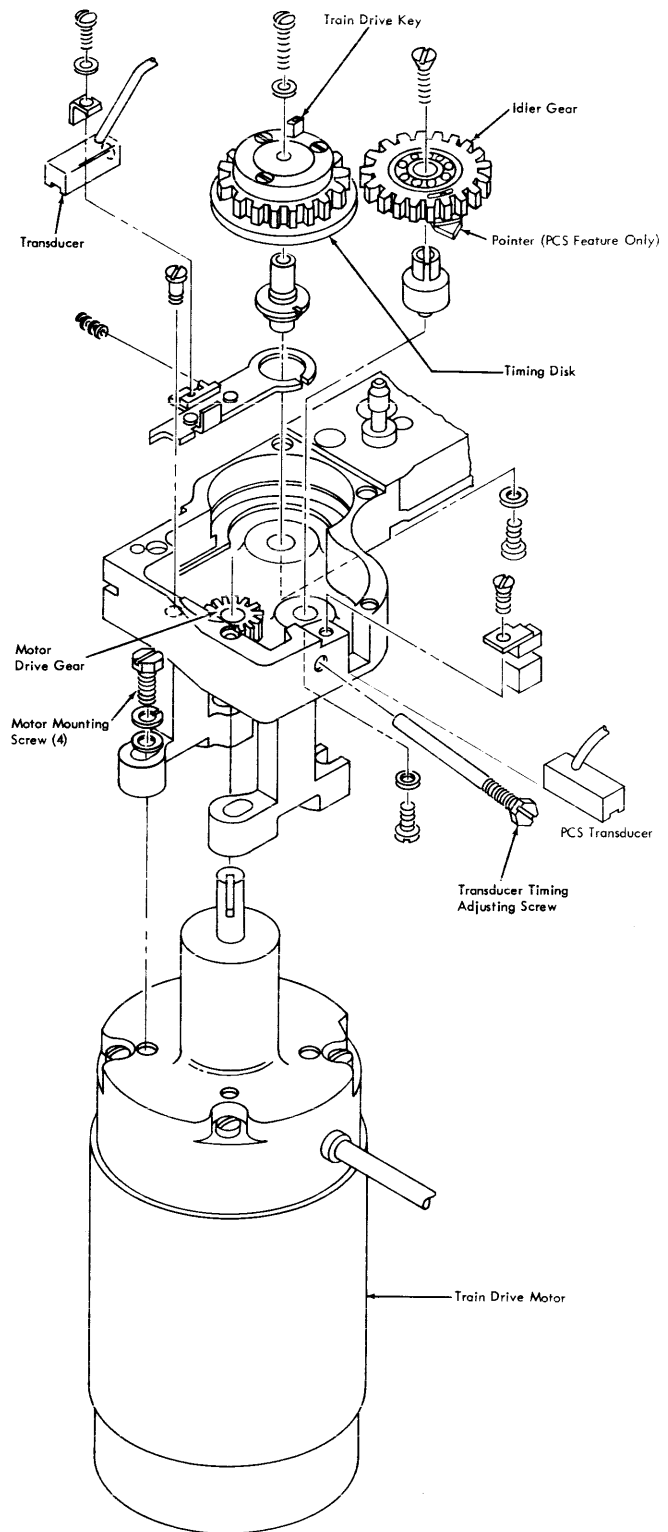

Figure 70. Train Drive and Timing Disk
4. Turn the idler gear to obtain the tightest mesh with the motor-drive gear (Figure 70).